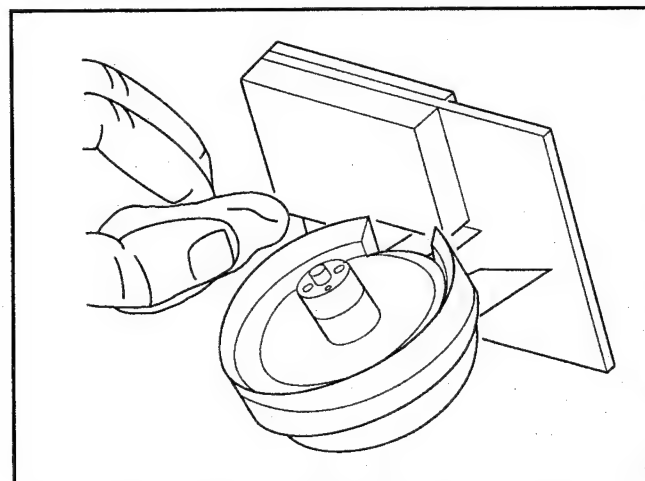

Fig. M3
- Before reinstalling a new unit, clean the D.D. Cylinder Shaft and the surface that engages with the Upper Cylinder with a soft cloth dampened with Ethanol in Fig. M3.